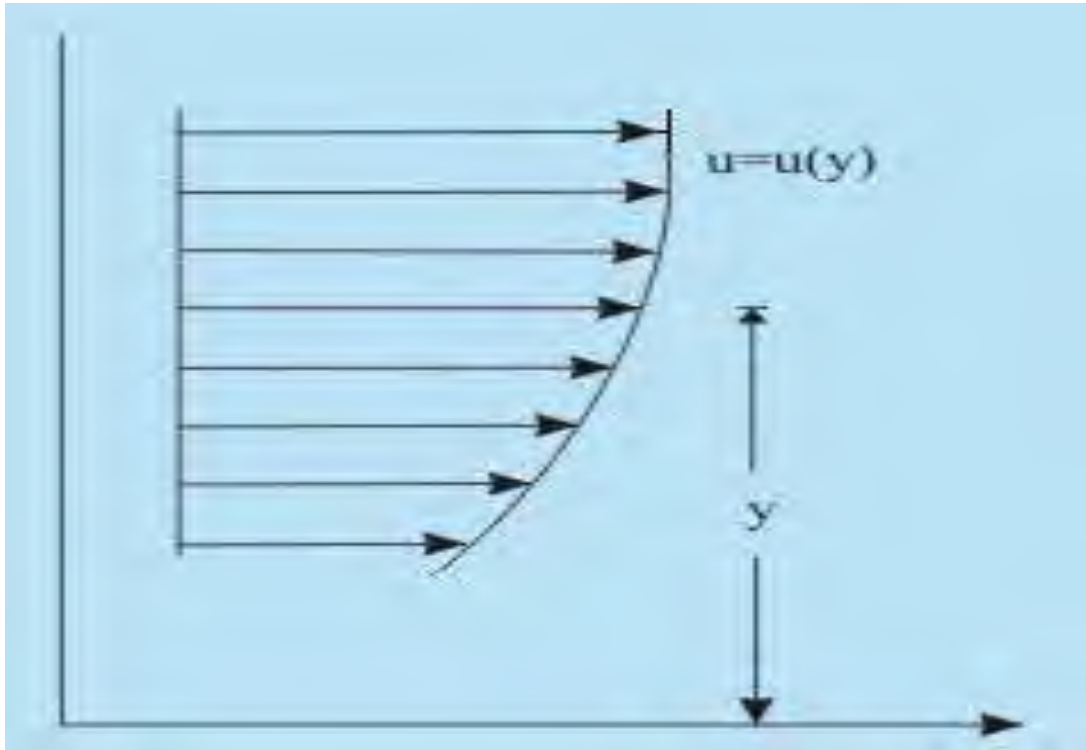

Fig 1.5 Parallel flow of a fluid
Consider a flow (Fig. 1.5) in which all fluid particles are moving in the same direction in such a way that the fluid layers move parallel with different velocities.
- For the profile shown in Fig. 1.5, du/dy is positive everywhere and hence, τ is positive.